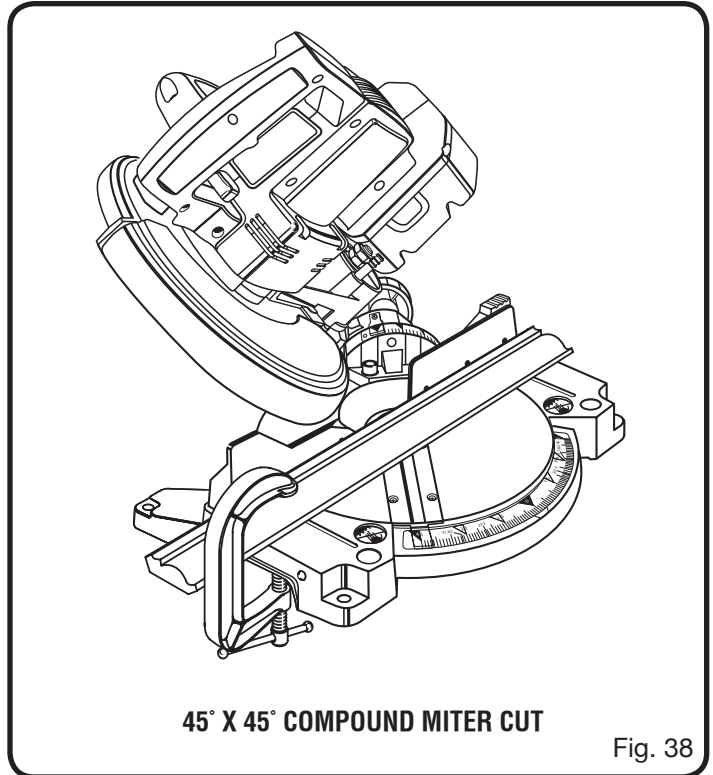

Fig. 38
- When cutting long pieces of lumber or molding, support the opposite end of the stock with a roller stand or with a work surface level with the saw table. *See Figure 38.*